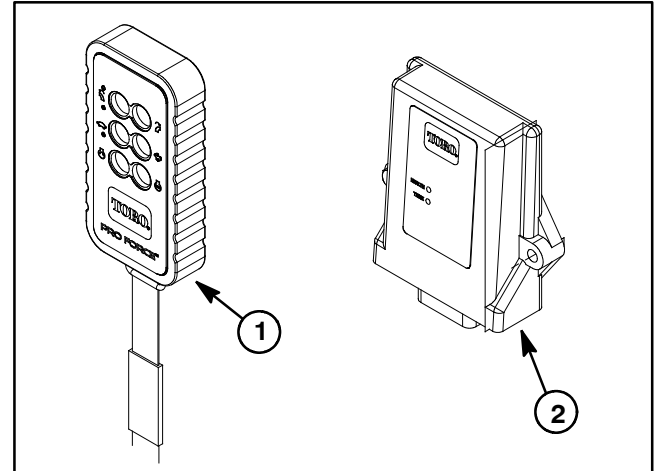

Figure 17
**NOTE:** Machines with a multi channel controller can be identified by the lack of an external antenna on the control module (Fig. 17).
The remote transmitter is a solid state electrical device that sends radio frequency (RF) signal inputs to the machine control module for control of machine electrical operation (Fig. 17). The remote transmitter has sufficient range to send an RF signal to the control module from the tow vehicle operator position.